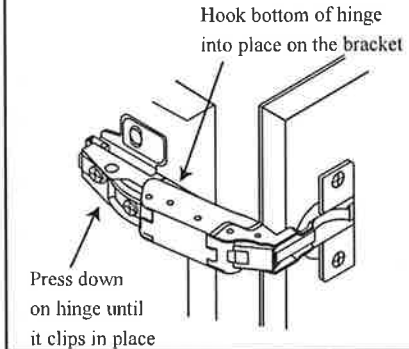
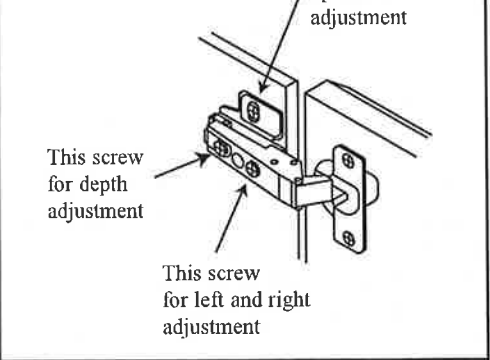

Fig. 10
Fig. 11
3. Check door for proper alignment. If the door needs to be adjusted please refer to the adjustment procedures in Fig. 10 or Fig. 11. Door edges should be aligned with to the face of the body.